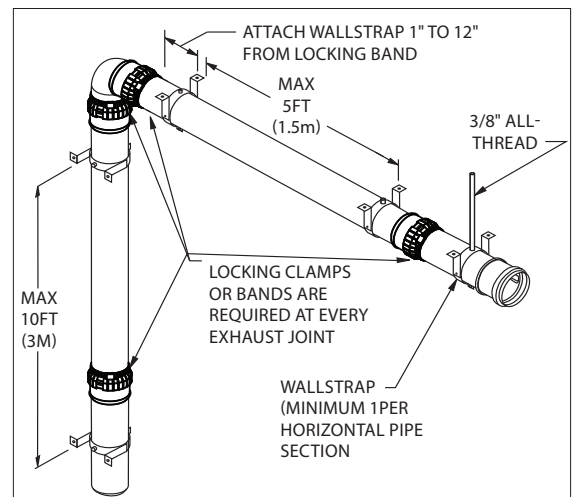

Figure 7
- Every horizontal section must be supported. (**Fig. 7**)
- Vertical installations must be supported every 10 feet (3 meters) or less. (**Fig.7**)
- Elbows and Tees are sufficiently supported when a bracket is fixed at the female end of the connected straight section. (**Fig. 7**)